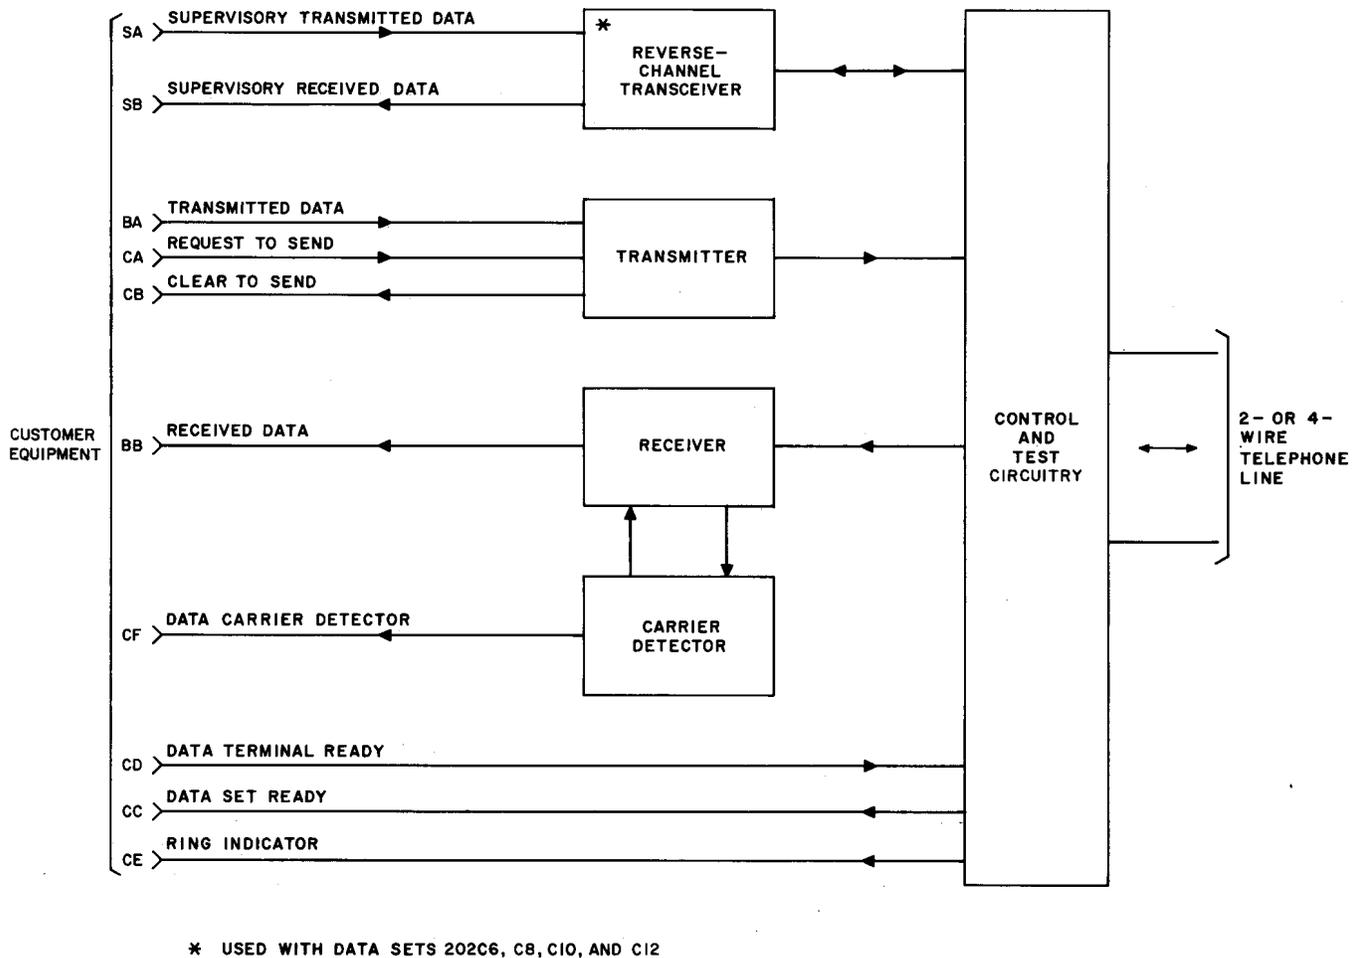

Fig. 3—Data Set 202C-Type—Block Diagram
2.09 Data Set 202C-type contains a transmitter, receiver, carrier detector, and control and test circuitry (Fig. 3). Data Sets 202C2, C6, C8, C10, and C12 also contain a reverse-channel transceiver.